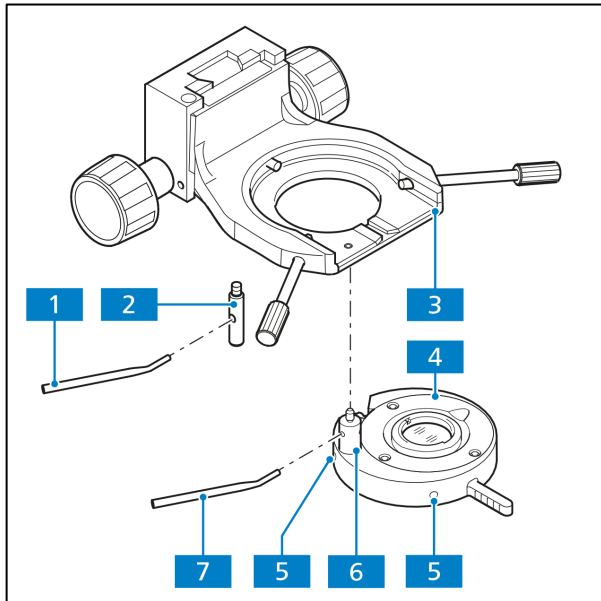

Fig. 3-48 Mounting the low-power system
- Hold the low-power system (Fig. 3-48/4) parallel to the bottom of the condenser carrier (Fig. 3-48/3) and screw the bracket bolt (Fig. 3-48/6) of the low-power system with the angled adjustment lever (Fig. 3-48/7) into the front threaded opening to the left below the condenser carrier (Fig. 3-48/3) until it stops.
- With the adjustment lever, (Fig. 3-48/1) screw the stop bolt (Fig. 3-48/2) into the rear threaded opening of the condenser barrier (Fig. 3-48/3) to the stop.
- Adjust both adjustment screws (Fig. 3-48/5) with the aid of two Allen wrenches (AF 1.5) until the field of view is well lit.